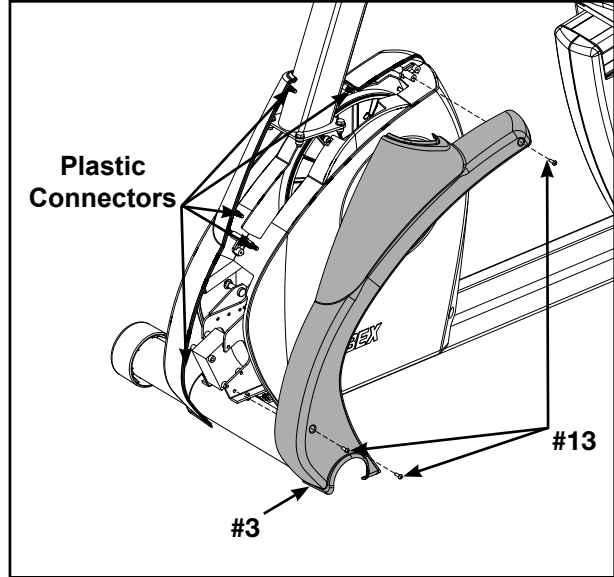

Figure 7
NOTE: In addition to two mounting screws per front cover, there are five plastic connectors that secure the front covers together. Ensure that all four plastic connectors are inserted properly in each front cover. See Figure 7.
- C. Locate and place the front left cover (#3) on the front of the unit as shown in Figure 7.
- D. Using a Phillips screwdriver, secure with three screws 8-16 x .50" (#13). See Figure 7.